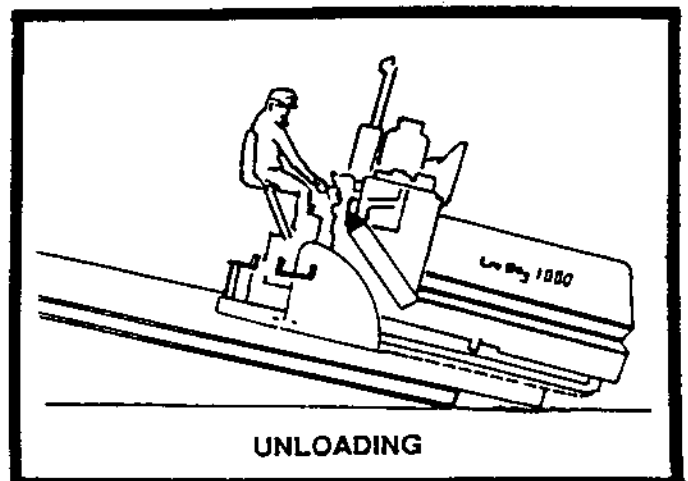

FIGURE 11
5. Move the paver forward down the ramp as shown in figure 11.